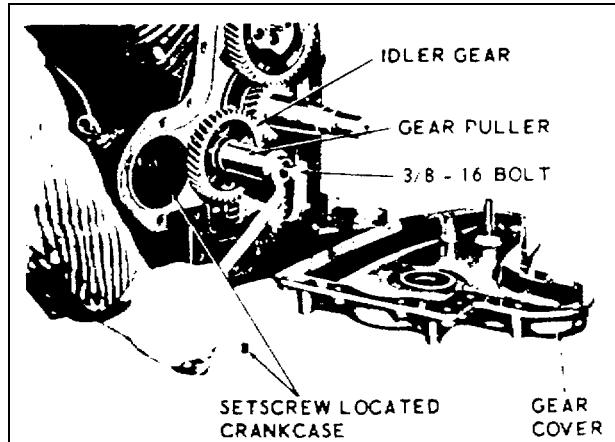

Figure 4-11. Removing Idler Shaft
(4) Remove setscrew on magneto side of crankcase which locks idler shaft in position. Remove idler gear assembly and idler shaft using a gear puller as shown in figure 4-11.
(7) Install idler gear and shaft in crankcase. Be sure oil groove in shaft is facing up. Drive shaft into crankcase with soft metal hammer and maintain a 0.003 to 0.004 inch clearance between idler gear and shoulder of shaft. Install setscrew (figure 4-11) on magneto side of crankcase to lock idler shaft in place.